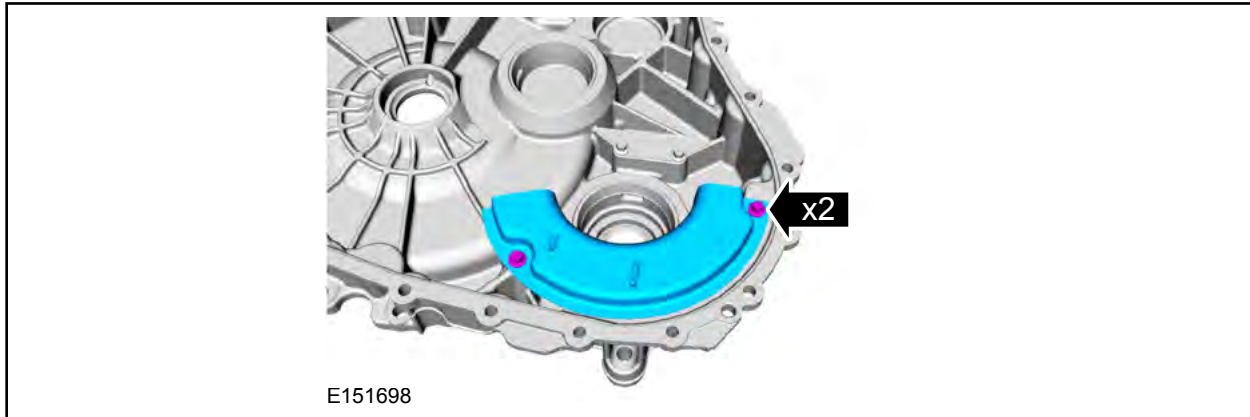

FIGURE 35
30. Install the transmission fluid oil sump baffle and the retainers. See Figure 35.